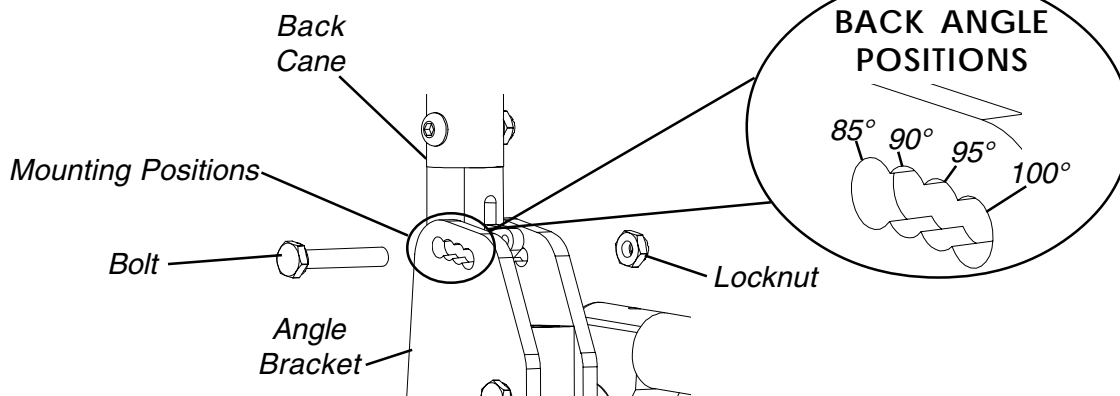

FIGURE 1 - ADJUSTING THE BACK ANGLE
ADJUSTING THE BACK ANGLE (FIGURE 1)
3. Reposition the bolt through one (1) of the four (4) mounting positions in the angle bracket as shown in FIGURE 1.